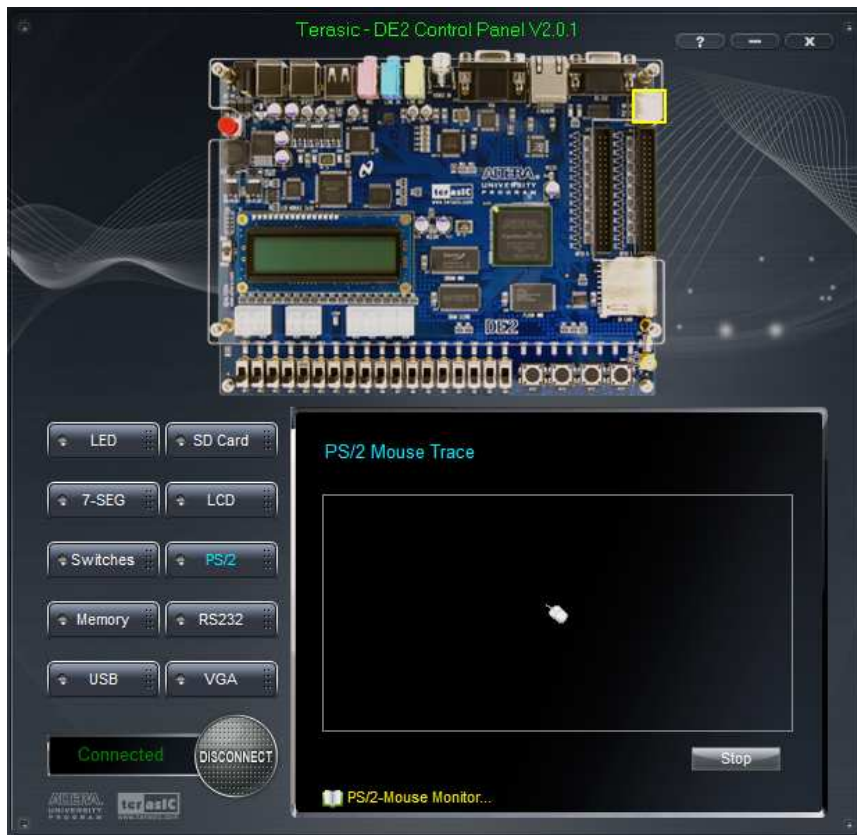

Figure 3.9. PS/2 Mouse Monitoring Tool.
1. Choosing the PS/2 tab leads to the window in Figure 3.9.